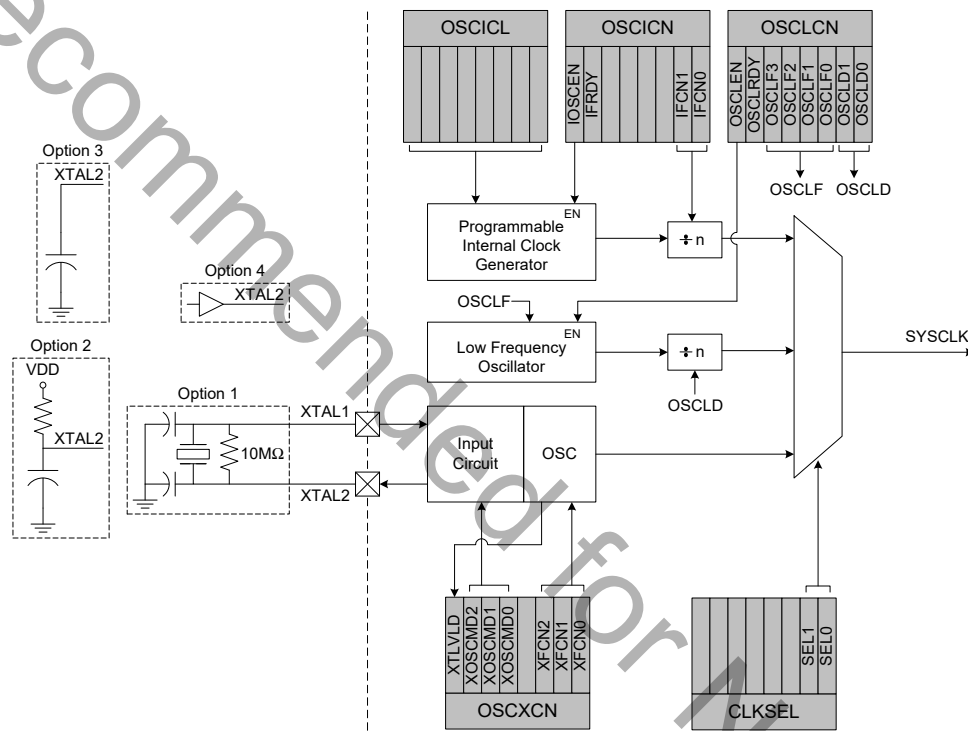

Figure 13.1. Oscillator Diagram
C8051F330/1/2/3/4/5 devices include a programmable internal high-frequency oscillator, a programmable internal low-frequency oscillator, and an external oscillator drive circuit. The internal high-frequency oscillator can be enabled/disabled and calibrated using the OSCICN and OSCICL registers, as shown in Figure 13.1. The internal low-frequency oscillator can be enabled/disabled and calibrated using the OSCLCN register, as shown in SFR Definition 13.3. The system clock can be sourced by the external oscillator circuit or either internal oscillator. Both internal oscillators offer a selectable post-scaling feature. The internal oscillators' electrical specifications are given in Table 13.1 on page 122.
The external oscillator circuit may drive an external crystal, ceramic resonator, capacitor, or RC network. A CMOS clock may also provide a clock input. For a crystal or ceramic resonator configuration, the crystal/resonator must be wired across the XTAL1 and XTAL2 pins as shown in Option 1 of Figure 13.1. A 10 M $\Omega$  resistor also must be wired across the XTAL2 and XTAL1 pins for the crystal/resonator configuration. In RC, capacitor, or CMOS clock configuration, the clock source should be wired to the XTAL2 pin as shown in Option 2, 3, or 4 of Figure 13.1. The type of external oscillator must be selected in the OSCXCN register, and the frequency control bits (XFCN) must be selected appropriately (see SFR Definition 13.4).
**CRYSTAL MODE** (Circuit from Figure 13.1, Option 1; XOSCND = 11x)
**RC MODE** (Circuit from Figure 13.1, Option 2; XOSCND = 10x)
**C MODE** (Circuit from Figure 13.1, Option 3; XOSCND = 10x)
If a crystal or ceramic resonator is used as an external oscillator source for the MCU, the circuit should be configured as shown in Figure 13.1, Option 1. The External Oscillator Frequency Control value (XFCN) should be chosen from the Crystal column of the table in SFR Definition 13.4 (OSCXCN register). For example, an 11.0592 MHz crystal requires an XFCN setting of 111b and a 32.768 kHz Watch Crystal requires an XFCN setting of 001b. After an external 32.768 kHz oscillator is stabilized, the XFCN setting can be switched to 000 to save power. It is recommended to enable the missing clock detector before switching the system clock to any external oscillator source.
For example, a tuning-fork crystal of 32.768 kHz with a recommended load capacitance of 12.5 pF should use the configuration shown in Figure 13.1, Option 1. The total value of the capacitors and the stray capacitance of the XTAL pins should equal 25 pF. With a stray capacitance of 3 pF per pin, the 22 pF capacitors yield an equivalent capacitance of 12.5 pF across the crystal, as shown in Figure 13.2.
If an RC network is used as an external oscillator source for the MCU, the circuit should be configured as shown in Figure 13.1, Option 2. The capacitor should be no greater than 100 pF; however for very small capacitors, the total capacitance may be dominated by parasitic capacitance in the PCB layout. To determine the required External Oscillator Frequency Control value (XFCN) in the OSCXCN Register, first select the RC network value to produce the desired frequency of oscillation. If the frequency desired is 100 kHz, let  $R = 246 \text{ k}\Omega$  and  $C = 50 \text{ pF}$ :